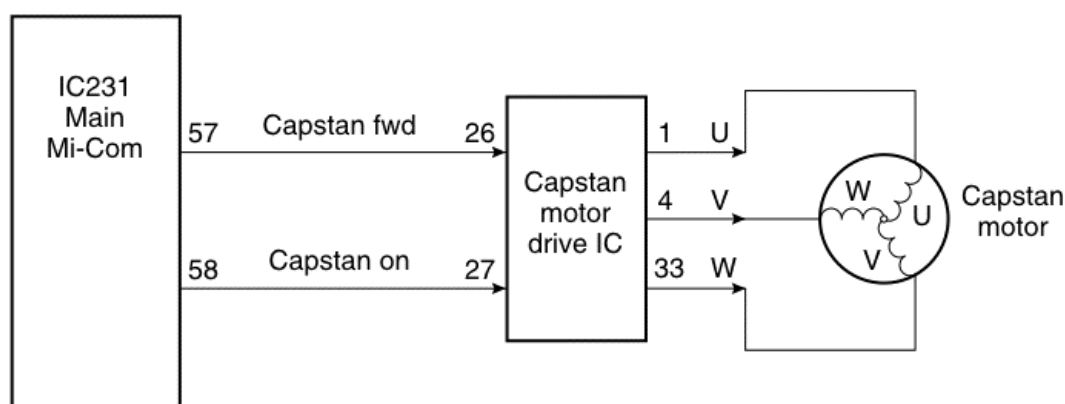

FIGURE 36-17 The typical 8-mm servo circuits.
Like most camcorder capstan motor circuits, the capstan motor is controlled by the Main Mi-Com IC, to a capstan motor drive IC and to the motor windings. In Canon's ES1000 capstan motor circuits, the capstan forward control comes from pin 57 of IC231 to pin 26 of capstan motor-drive IC (Fig. 36-17). The capstan On signal from pin 58 appears at input pin 27 of the capstan motor-drive IC. The motor drive IC consists of a U-V-W driver internal circuit, which applies voltage to the motor out of pin 1 (U), pin 4 (V), and pin 33 (W), to the capstan motor windings.